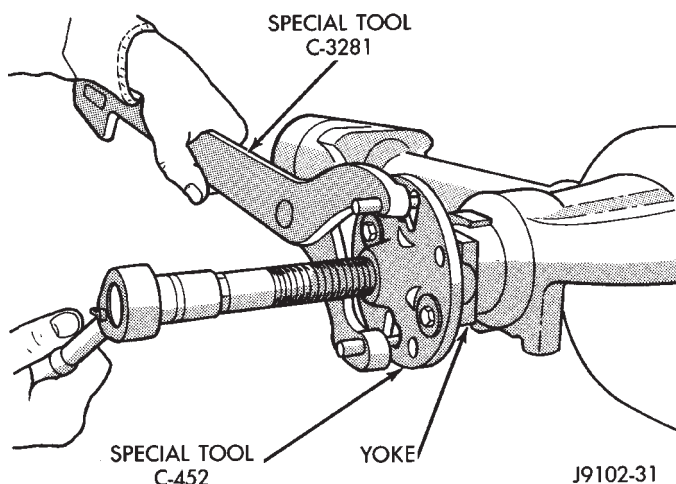

Fig. 7 Pinion Yoke Removal
(1) Raise and support the vehicle.
(2) Remove wheel and tire assemblies.
(3) Remove the brake drums. Refer to Group 5, Brakes, for proper procedures.
(4) Mark the propeller shaft and pinion yoke for installation alignment reference.
(5) Remove the propeller shaft from the yoke.
(6) Rotate the pinion gear three or four times.
(7) Measure the amount of torque necessary to rotate the pinion gear with a (in. lbs.) dial-type torque wrench. Record the torque reading for installation reference.
(8) Using Holder 6958 to hold the pinion yoke, remove the pinion nut and washer.
(9) Use Remover C-452 and Wrench C-3281 to remove the pinion yoke (Fig. 7).